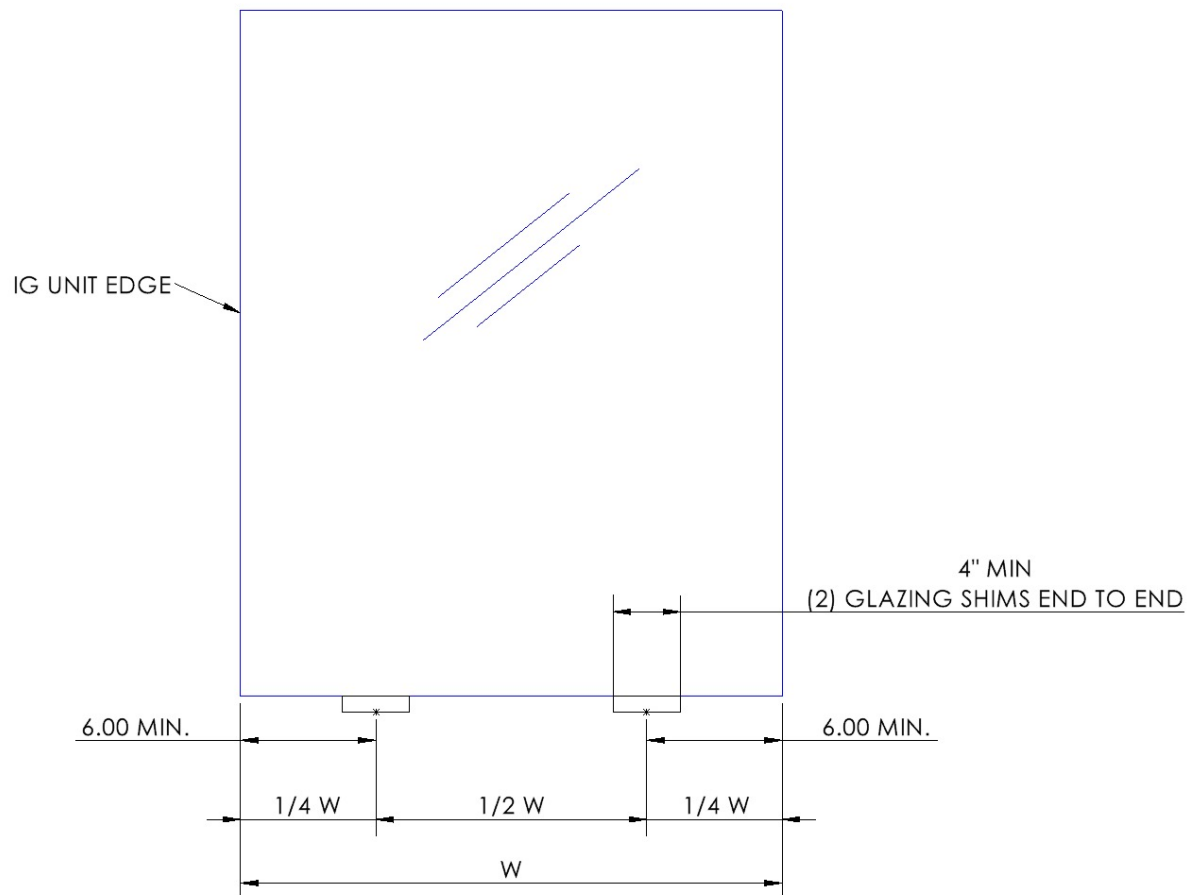

Figure 20
15. Set the Insulated Glass on two (2) pairs of setting blocks positioned at $1/4$ points in opening as shown in Figure 20. Setting blocks are not to be placed closer than 6" from the edge of glass.